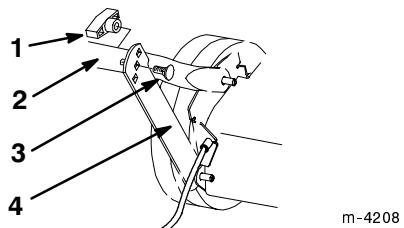

Figure 3
3. Swing the lower handle section back and the support brackets up, aligning the brackets with the holes in the handle (Fig. 3).
- Secure the handle to the support brackets with the two flat handle bolts and two knobs, using the height adjustment holes on the brackets that best fit your height (Fig. 3).